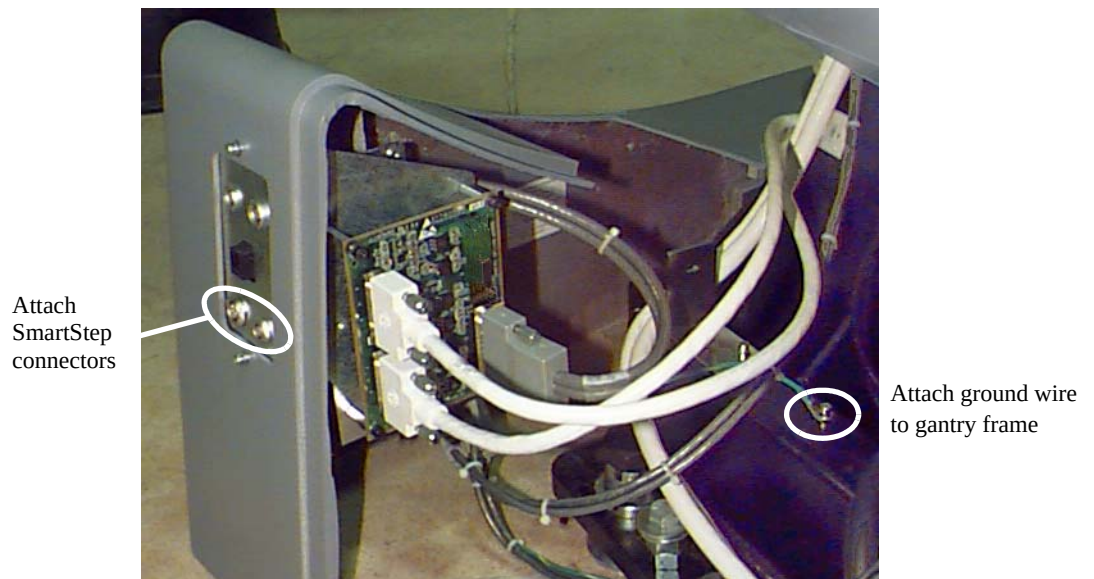

Figure 2-7 Ground Wire Installation
- 6.) Using the provided M4 screw (46-328417P4), washer (46-328430P2) and lock washer (46-328432P2), attach the SmartStep cable ground wire to the cable tie screw hole on the chassis. Remove paint as necessary to ensure a good electrical connection. See Figure 2-7 for location.